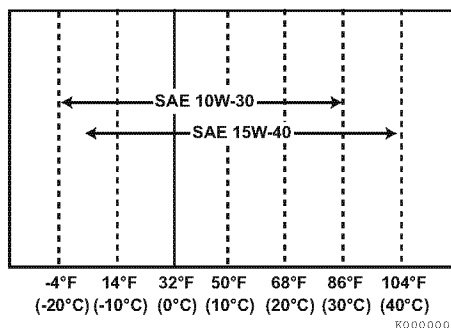

Figure 4
- Select the oil viscosity based on the ambient temperature where the engine is being operated. See the SAE service grade viscosity chart (**Figure 4**).